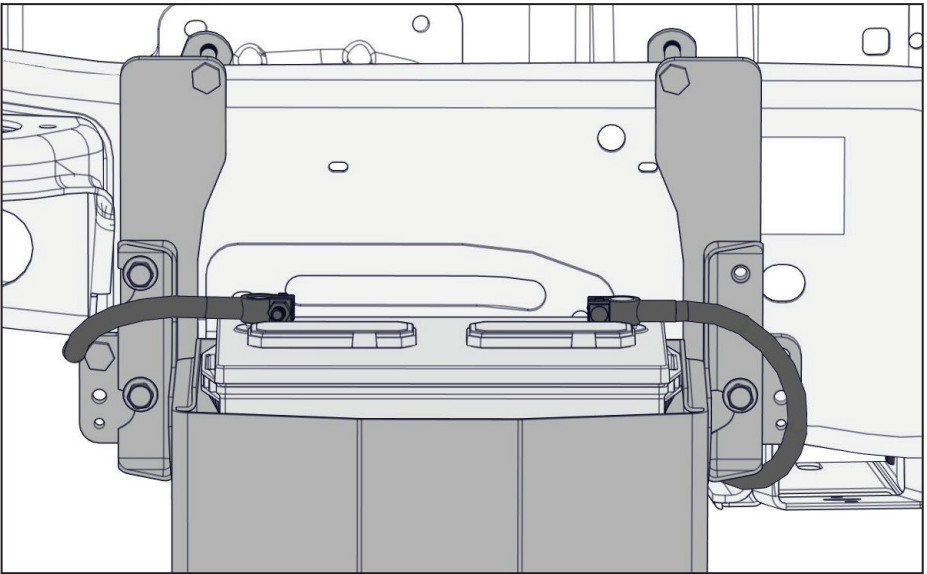

Figure 75 — Installing the battery box
- ☐ Apply dielectric grease to the battery terminals and connect them to the battery (Figure 75).